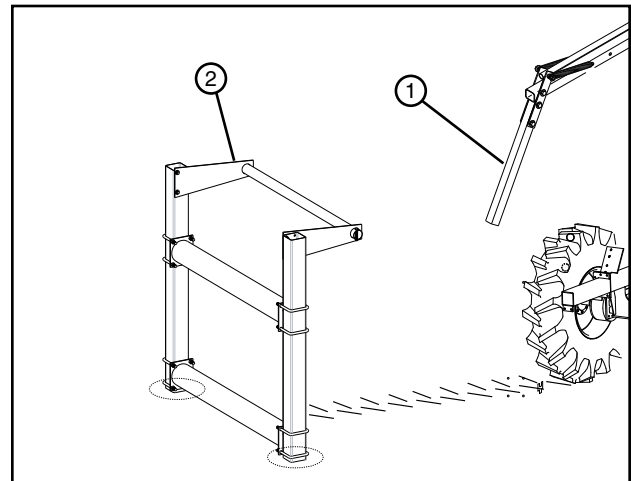

Figure 29-2 1. Actuator arm
• **Care must be taken when the barricade option in Figure 29-2 is used. The operator **MUST** ensure the actuator arm contacts the tripping structure. Under certain conditions, soil may build up in the wheel track resulting in a ramp effect. This may allow the actuator arm to go over the top of the structure which trips the actuator arm. Should this happen, the machine will not stop but continue to move and can result in damage to the machine**